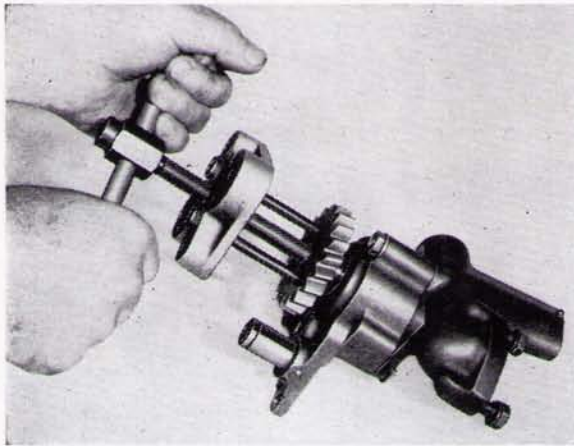

Fig. P.5.
1. With the pump assembly suitably held in a vice, remove the pump drive gear by using a suitable tool. See Fig. P.5.